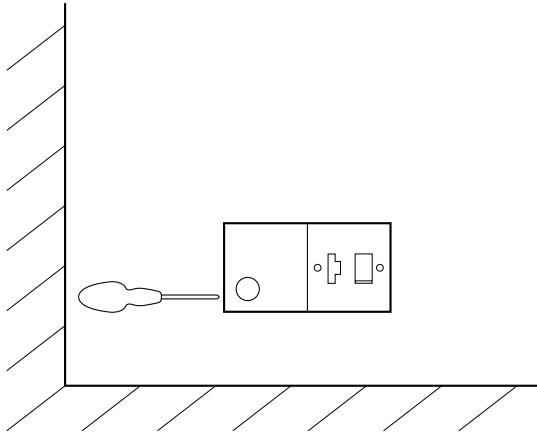

Fig. 2
9. Screwdriver access must be provided to the left of the power supply enclosure for the removal of the cover screw (Fig. 2).